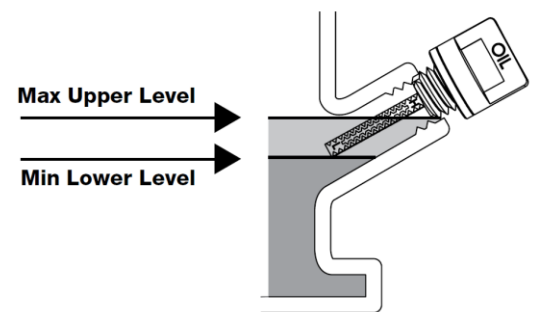

Figure 13
2. Install the Dipstick but **DO NOT** screw it in (**Figure 13**). Remove the Dipstick and check the Oil level. Continue adding Oil as needed, until the Oil reaches the full mark (Max Upper Level). Be careful not to overfill.